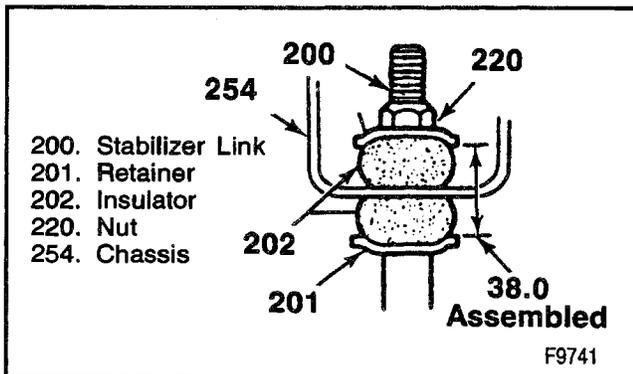

Figure 54—Stabilizer Link Hardware Tightened Dimension
- Nut (220) until the distance between each retainer (117) is 38.0 mm (1.5 inches) (Figure 54).